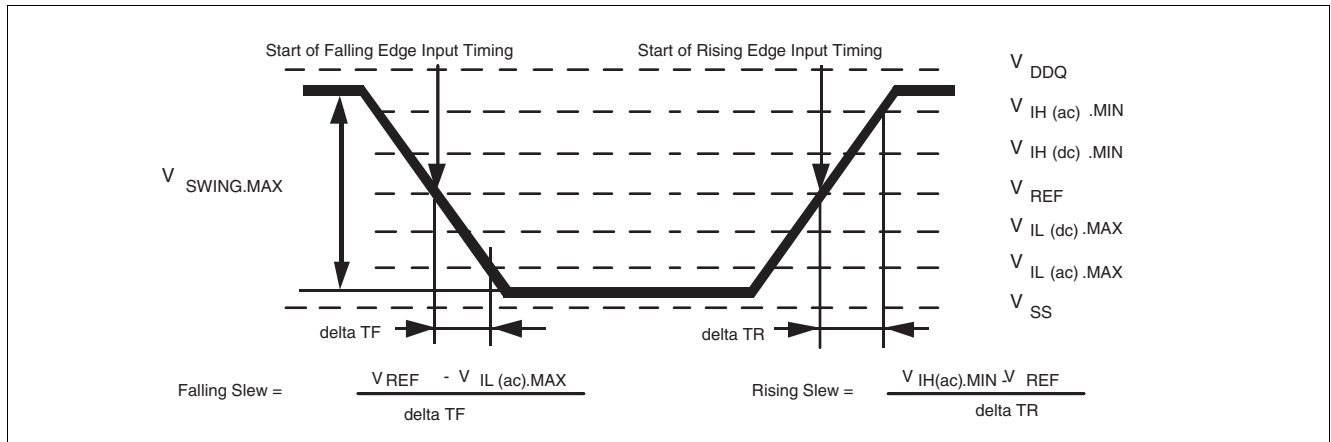

Figure 61 Single-ended AC Input Test Conditions Diagram
2) The input signal minimum Slew Rate is to be maintained over the range from  $V_{IH(ac).MIN}$  to  $V_{REF}$  for rising edges and the range from  $V_{REF}$  to  $V_{IL(ac).MAX}$  for falling edges as shown in Figure 61